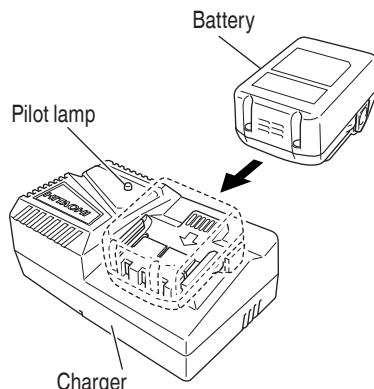

Fig. 4
2. Insert the battery into the charger. Firmly insert the battery into the charger as shown in Fig. 4.